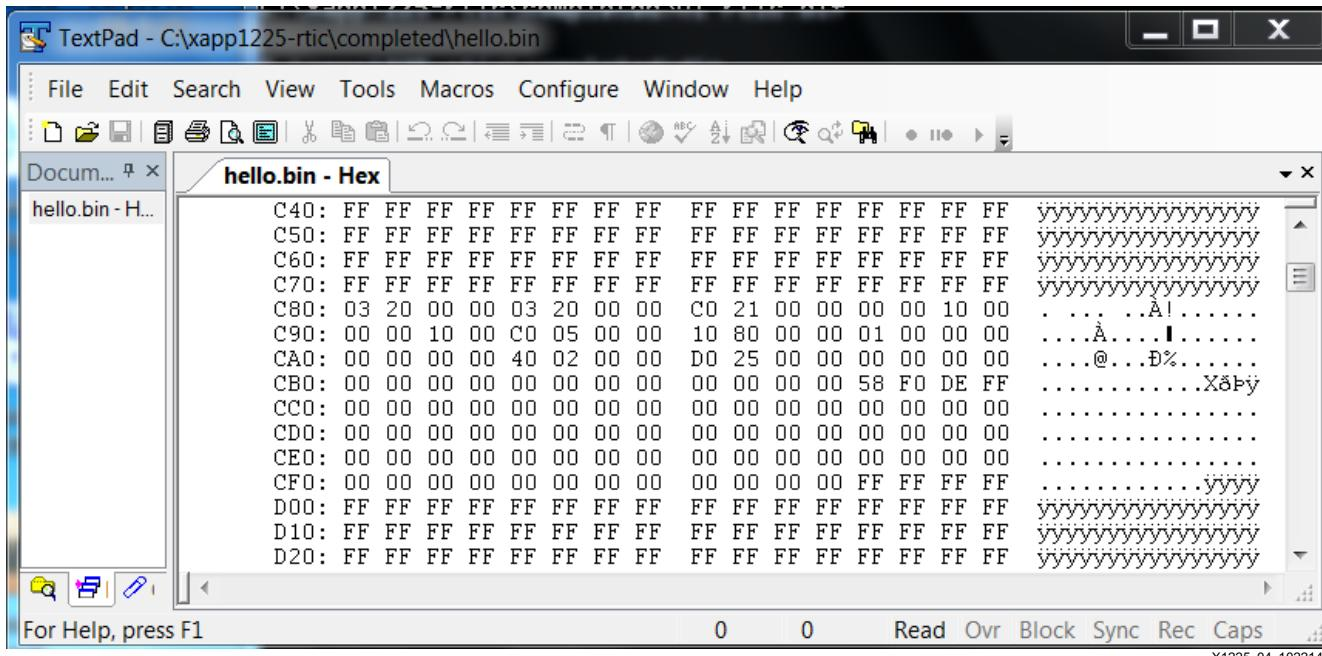

Figure 4: Updating Parameters in rsa_auth_app.h
14. As shown in Figure 4, open `rsa_auth_app.h`, and provide the values just calculated to the `#define(s)`. When the authentication test is run, the image is loaded at an offset of 0x2000000. Add the 0x2000000 base address to the APPLICATION START ADDRESS and CERTIFICATE_START_ADDRESS.